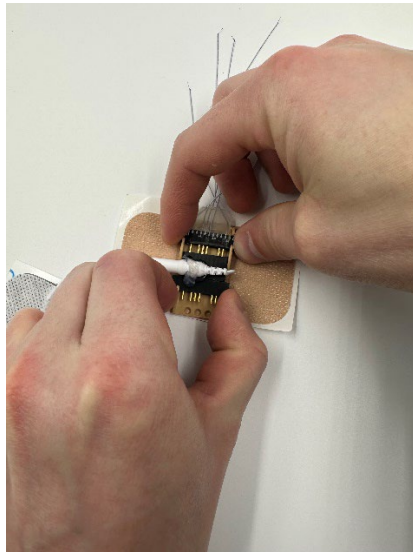
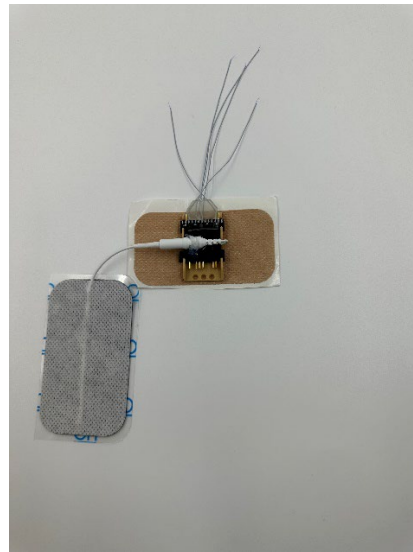

Figure 32.
Figure 33.
4. Plug the backup connector into the electrode connector that is secured in the connector holder (Figure 32 and Figure 33).